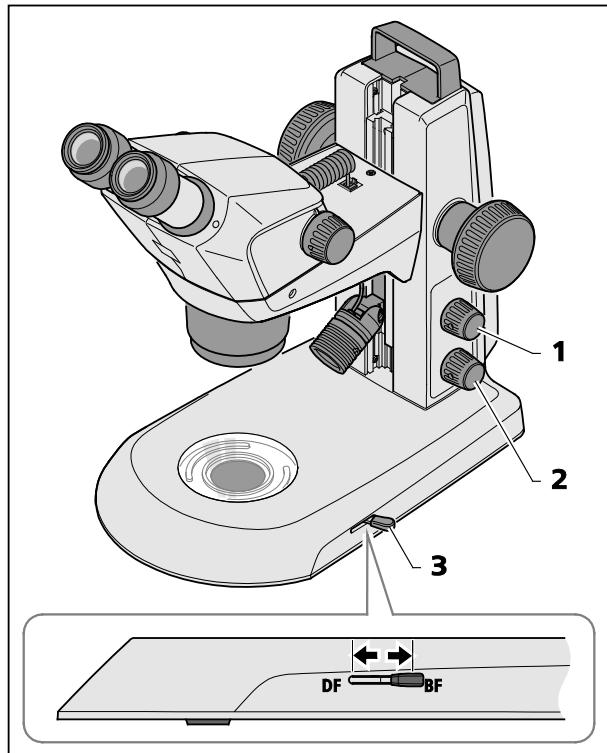

Fig. 25 Transmitted-light module in stand K EDU
- Switch transmitted-light illumination ON by pressing the lower knob (Fig. 25/2).
- Change over by adjusting the lever (Fig. 25/3) between the bright field and the dark field illumination.
- Front position: Dark field (DF)
- Rear position: Bright field (BF)
Press the upper knob (Fig. 25/1) to blend in reflected light (see section 4.2 on page 28).